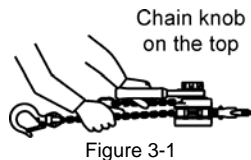
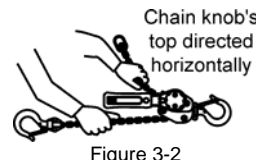

Figure 3-1
Figure 3-2
- 3.2.5 Free chaining with the chain knob on the top as shown in Figure 3.1 may cause a braking force. In this case, direct the top of the knob towards the horizontal side as shown in Figure 3.2 in free-chaining mode.